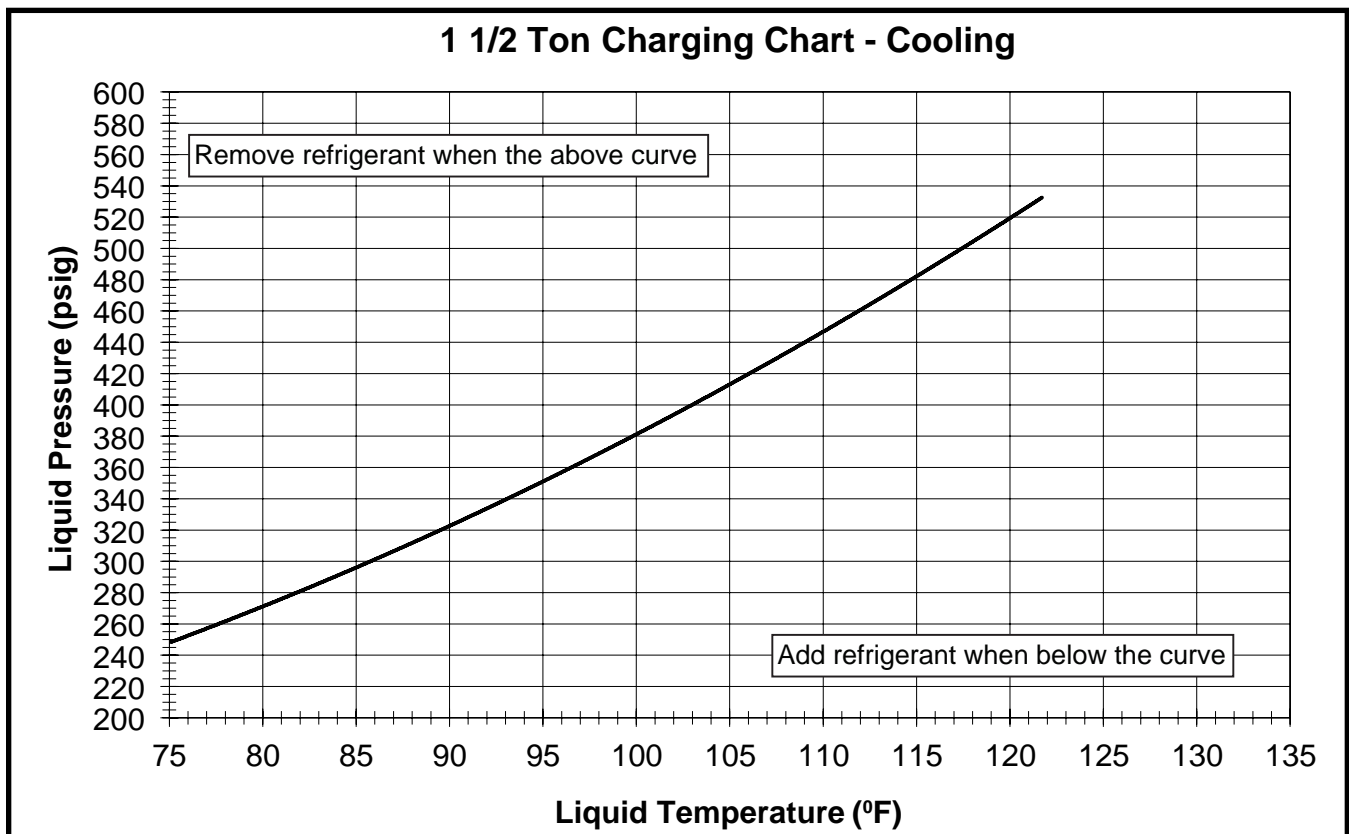

Figure 5. Charging Chart for 1.5 Ton Units (TXV Matches)
3. Determine the required liquid refrigerant pressure from Figures 5 - 11 (pages 10 - 13).
- Charging charts are valid for a variety of indoor, return air conditions and are most influenced by the outdoor ambient temperature, outdoor fan operation and the unit operating voltage. Before using these charts, make sure the unit is in a stable operating mode. As shown in the charging charts (Figures 5 - 11, pages 10 - 13), the ideal system sub-cooling can vary over the range of operation. Reference the charts to determine the ideal amount of sub-cooling for a given liquid pressure. Units charged to other values will not perform at the rated unit efficiency (EER) or rated Coefficient of Performance (COP) in heating mode.